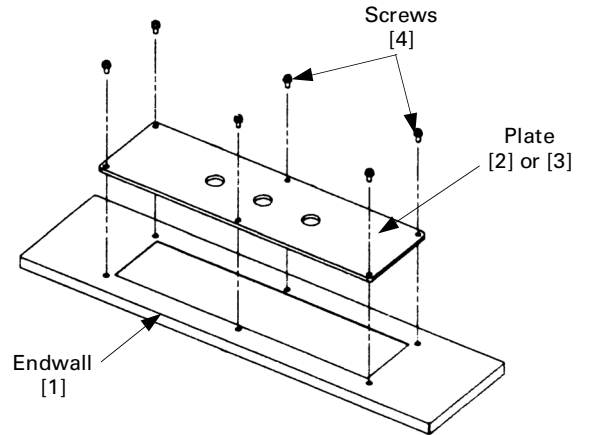

Figure 1. Attaching the nonmetallic plate or the aluminum plate to an endwall.
1. Cut holes into the nonmetallic plate [2] and the aluminum plate [3] as required for wiring and as shown in Figure 1.
2. Attach the nonmetallic plate [2] and the aluminum plate [3] to the endwalls [1] with 1/4-20 x 1/2" screws [4], as shown in Figure 1.